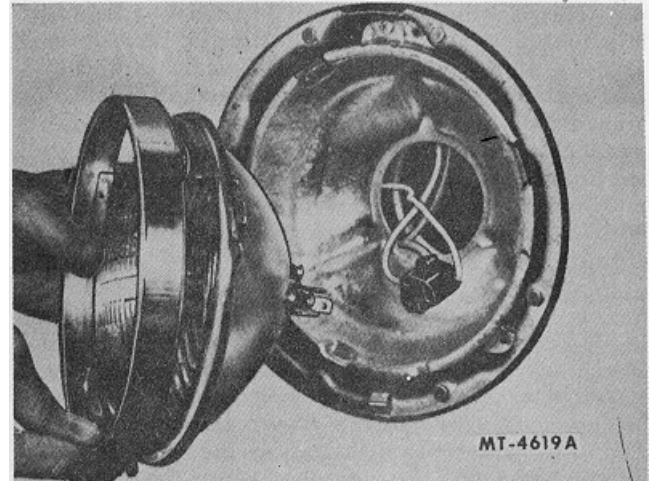

Fig. 7
4. Disconnect the connector plug from the sealed beam unit and remove unit. Do not damage wiring, Fig. 7.